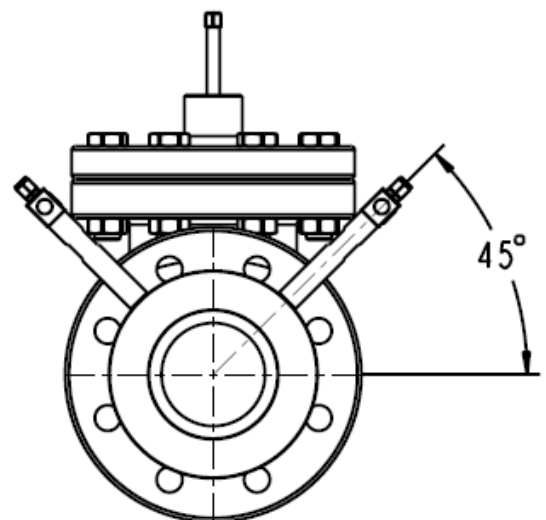

Fig. 2. Pre-sensor installation angle
3. The pre-sensor is installed at the inlet of the control valve, make sure the arrow direction on the sensor to be consistent with the flow direction. And the central axis of the two pressure sampling holes on the sensor to be horizontally 45°, see Fig. 2;